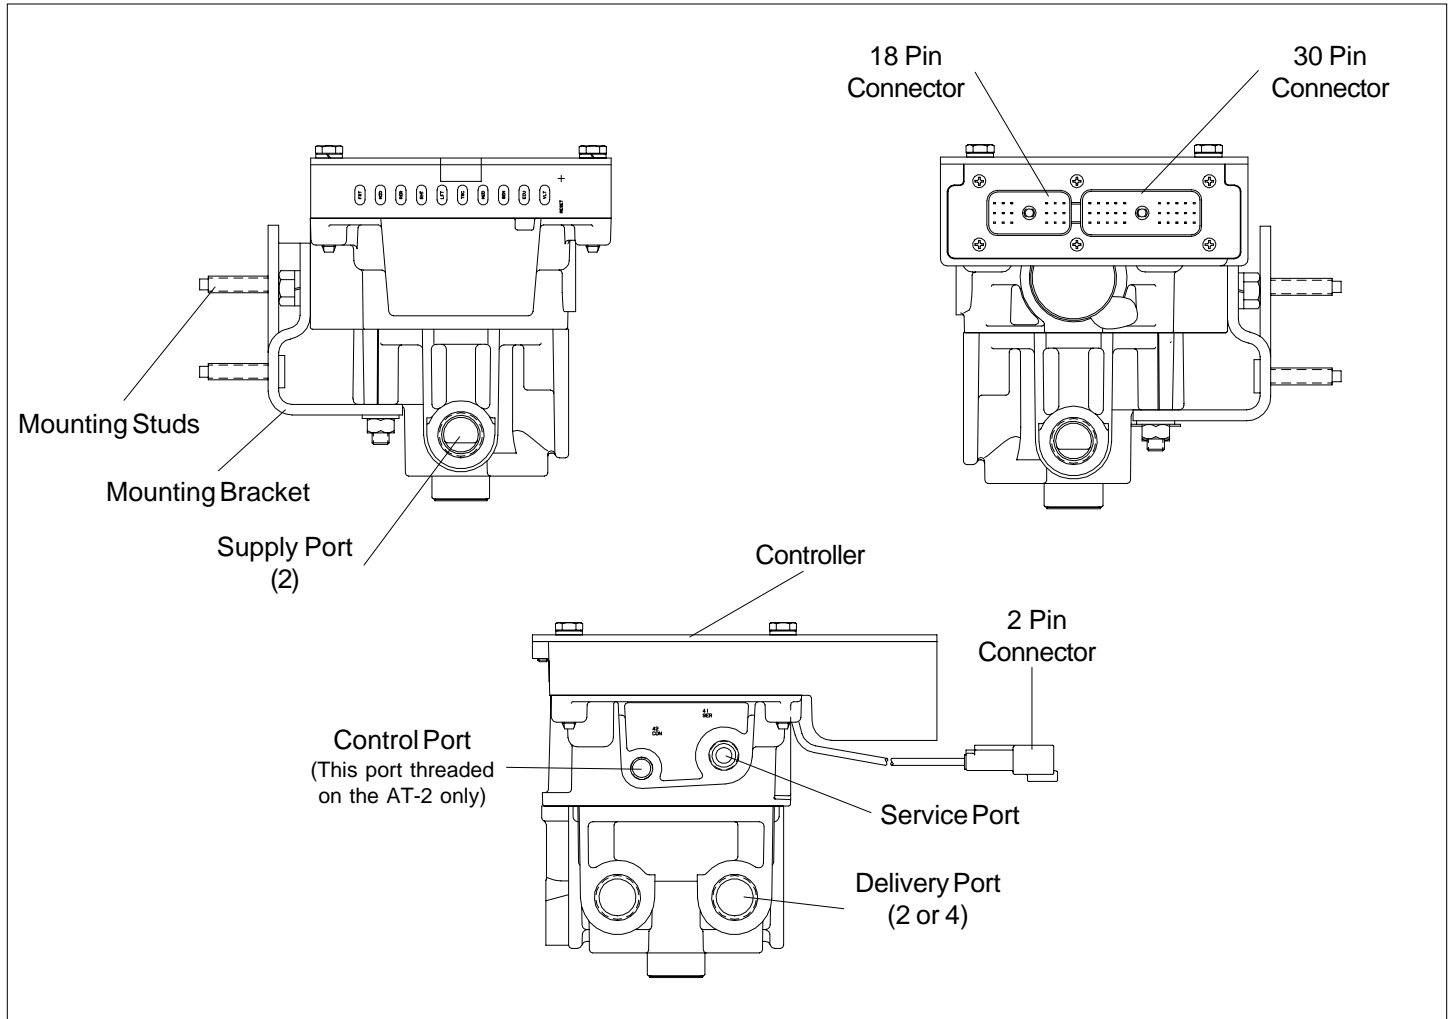

FIGURE 1 AT-1 AntiLock Traction Assembly
4. Refer to figure 1 when installing the AT-1 or AT-2 wire harness assemblies. Identify each connector and note the position of locating lugs and grooves on the connector halves. **DO NOT FORCE CONNECTOR HALVES TOGETHER.**
3. Disconnect all three (3) electrical connectors (Refer to figure 1)